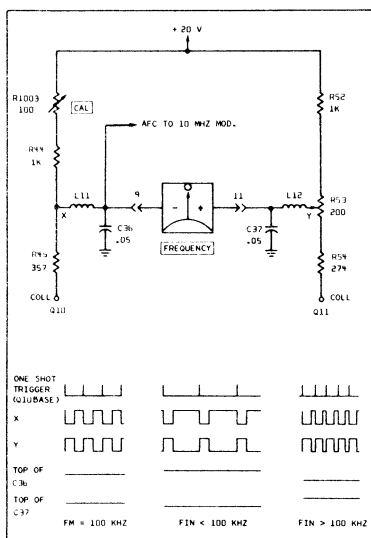

Figure 4-1. Frequency Meter Bridge Circuit
4.95 The one-shot output has a pulse width of 5 microseconds (one-half the period of 100 kHz) at the collector of Q11. This pulse width remains the same throughout a frequency error range of from 75 to 125 kHz. The width between pulses, however, depends on the interval between input pulses (pulse frequency) and therefore will be longer for a lower frequency and shorter for a higher frequency. The duty cycle will therefore vary with frequency and will be 50% only when the frequency is 100 kHz. Output at Q10 collector will be the opposite of that at Q11. The outputs from Q10, Q11 collectors are connected to a meter bridge circuit. See Figure 4-1.
4.96 The outputs of Q10, Q11 are averaged in the circuits L11, C36 and L12, C37. Refer to Figure 4-1. When the intervals between pulses are longer than the pulses the voltage at the top of C36 rises and that at C37 goes lower and the meter deflects to indicate below center frequency. When the intervals are shorter than the pulse the voltage levels are the opposite and the meter deflects to the high frequency side. When the pulses